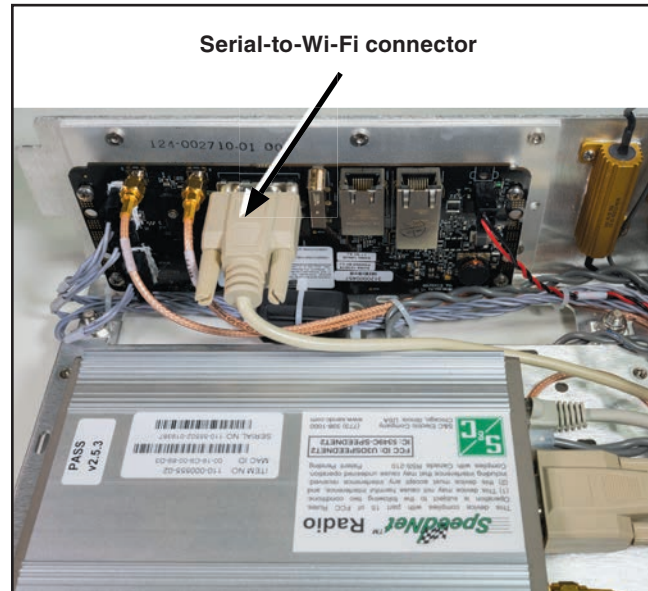

Figure 12. Serial cable connected to the Wi-Fi circuit board.
**STEP 5.** The wiring harness on most radios includes a power plug and a serial or Ethernet data-port connector. Insert the power plug in its receptacle. If applicable, insert the control's Ethernet 1 connector in its receptacle and insert the serial-to-Wi-Fi connector in its receptacle on the radio and in the receptacle on the Wi-Fi circuit board. See Figure 12 on page 12. The connection to the Wi-Fi board is for maintenance or programming of the communication device over Wi-Fi, not for data transfer.